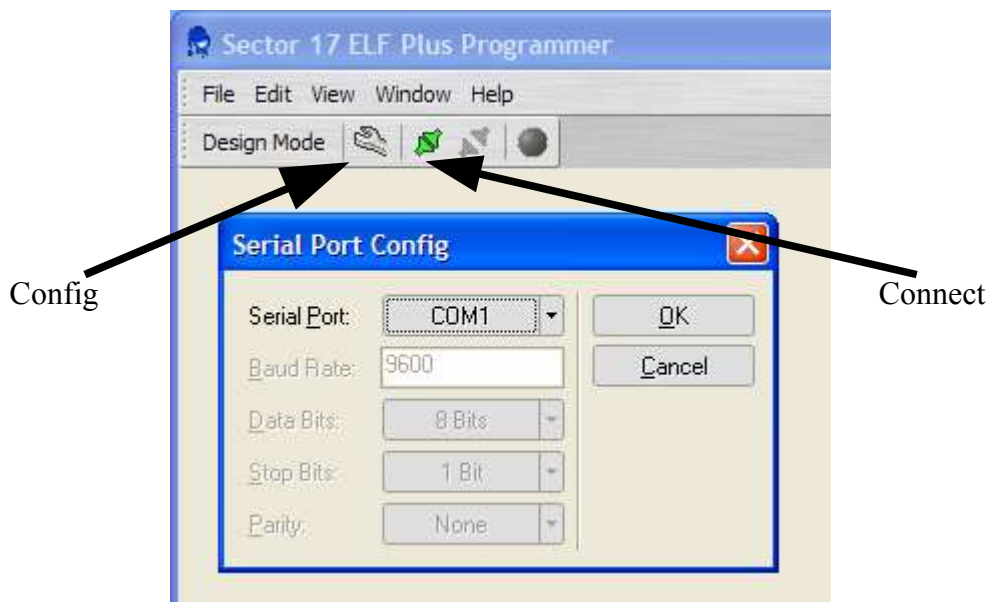
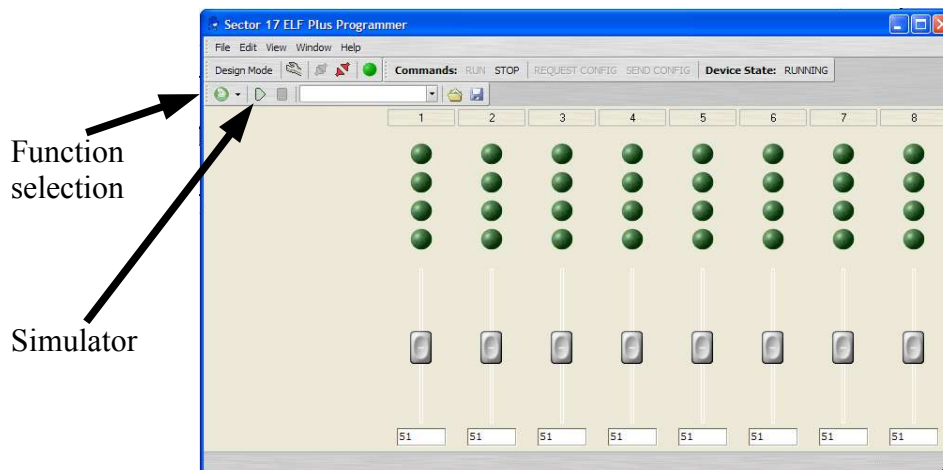

Figure 4
Figure 5
- 3.6 After the port is configured, you can 'connect' to the ELF controller box. Click **File** (on the menu bar), then **Connect** or the button shown in Figure 4. The screen is shown in figure 5. The black numbers in the boxes above the green dots are the channel numbers and correspond to the channels on the ELF controller box. The grey rectangles slide up and down and change the flash delay. The actual number is shown in the white boxes at the bottom of the sliders. The dots above the sliders represent a strand of lights and will flash at the chosen flash delay when the *simulator mode* is selected.
- 3.7 The program is in *Design Mode*, as shown in the top left hand corner. To set up an 8 channel flasher unit, using the mouse, click on the **Function selection** button as shown in Figure 5. From the drop down box, choose the **Flasher** effect. In the left hand window pane, a box with the word Flasher and the word *output1* and *Channel 1* beneath it, appear. Channel 1 has now been assigned the effect of Flasher.
- 3.10 To give an idea of the flash rates that have been chosen for each channel, a simulator is provided. Click on the *Simulator Start* button as shown in Figure 5 and the “lights” will start flashing.